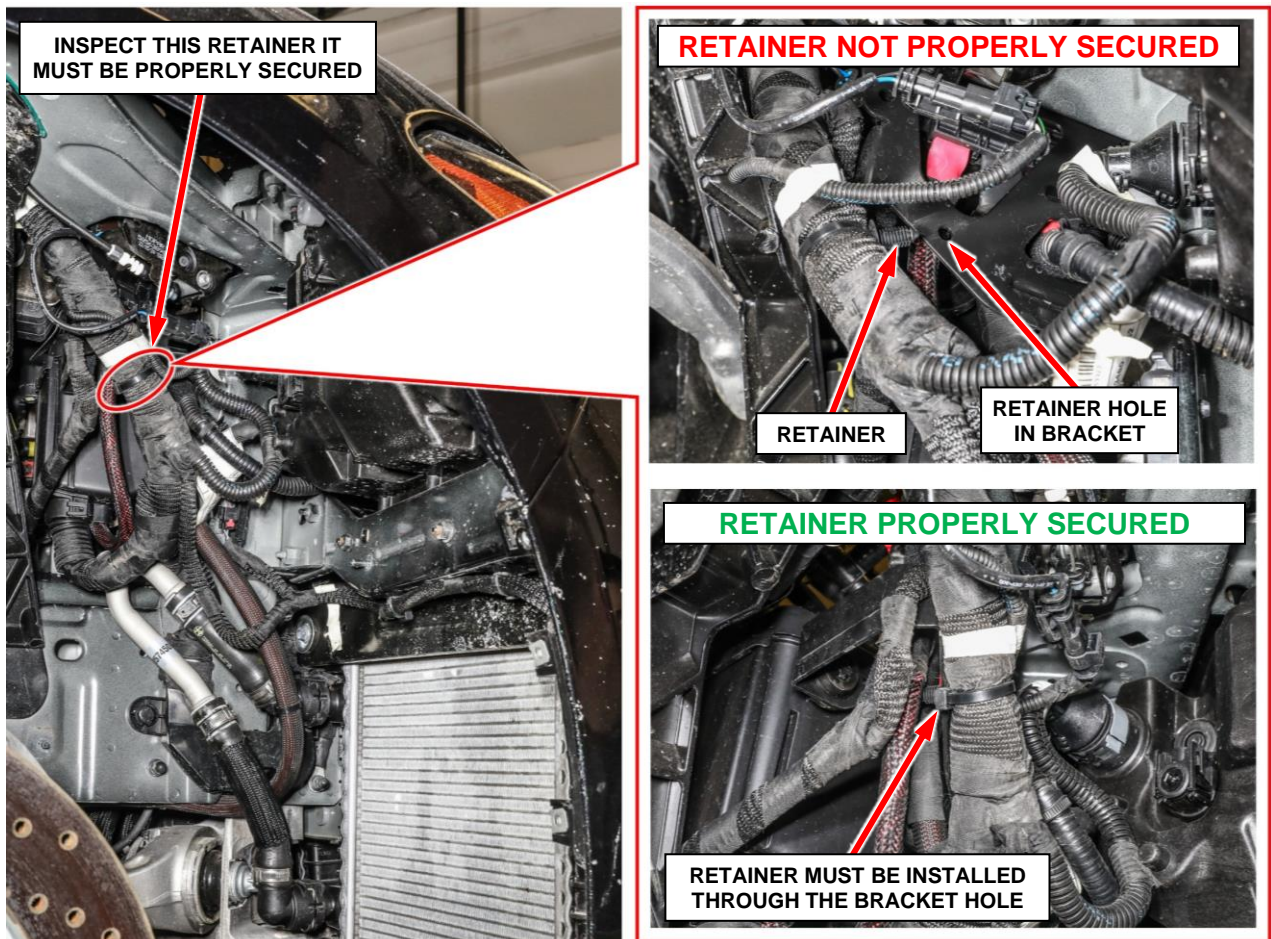

Figure 2 – Wire Harness Retainer
5. Inspect the headlamp wire harness branch retainer clip position and properly reattach if necessary (Figure 2).